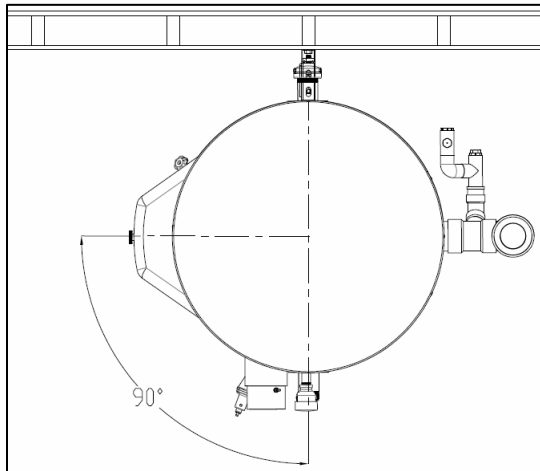

Figure 5: 90-deg orientation
**Step 3:** If necessary, install pipe caps over the Hot and Cold connections on the left side of the unit before positioning water heater against standoffs. If oriented per Figure 5 in the following step, it's recommended that the caps are installed prior to final positioning.
The water heater shall be oriented between a 50° and 90° angle of rotation (assuming the back of the unit is initially facing the wall). Figures 5 and 6 show the unit positioned at these angles. If the unit is positioned as in Figure 5, the condensate discharge may be pointed to the left or right side of the water heater.